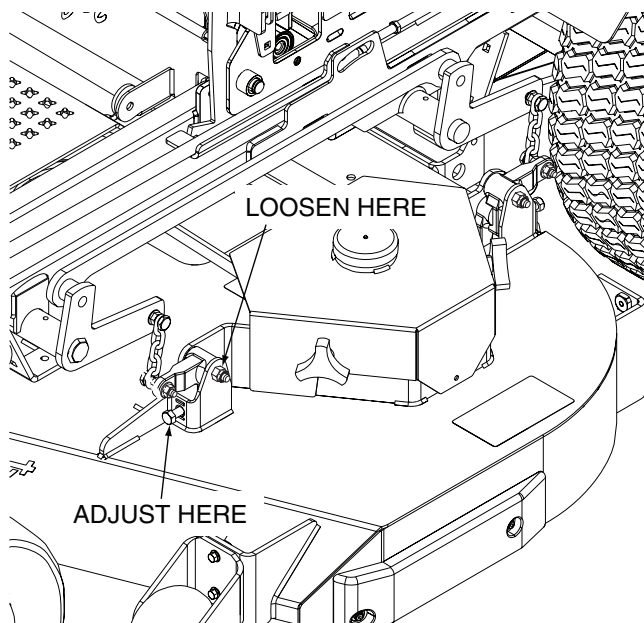

Figure 6-6. Cutter Deck Pitch Adjustment
1. Loosen the elastic stop nuts securing the deck level links on the front of the cutter deck on both sides. See Figure 6-6 and 6-7.